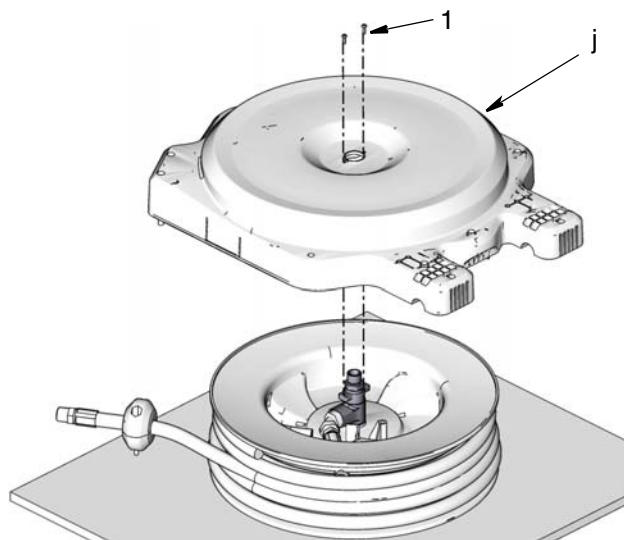

FIG. 12
11. Unscrew 2 screws (1) (FIG. 12) and remove enclosure (j). (New screws (1) are included in the swivel kit.)